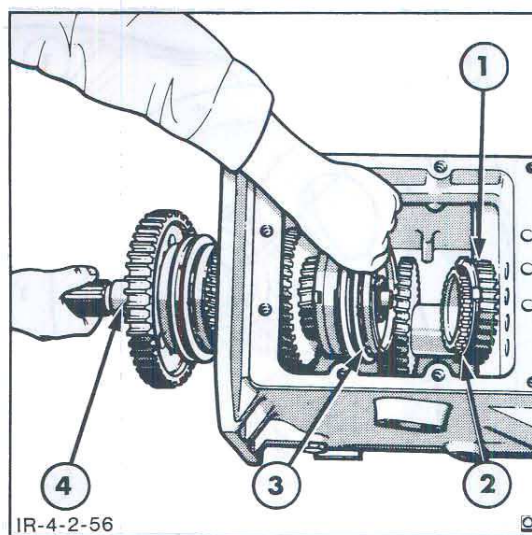

Figure 56
1. Release the cord retaining the output shaft and countershaft assemblies together then lift the output shaft assembly rearwards from the transmission case as shown in Figure 56.